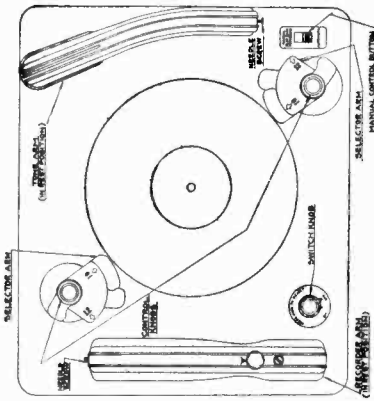
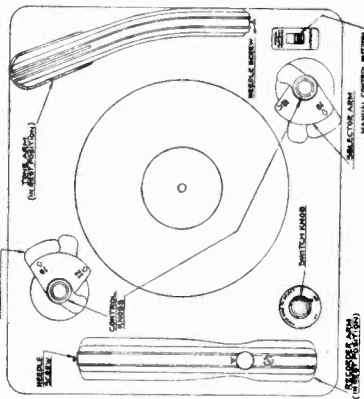

Fig. 2
Fig. 3
First switch off the motor. Grasp each post by its knob at the top and turn them out of the way. Return the tone arm to the rest position. Then lift the played records from the turntable. Return the posts to the proper playing position as indicated by the arrows on the selecting arms. (See Fig. 2 and 3). The Changer may then be loaded with a new stack of records according to the size shown on the selecting arms.
On each post there are selecting arms (See Fig. 2 and Fig. 3) and their position determines the setting for different size records. To set for 10 or 12 inch records, it is merely necessary to grasp the posts by the knobs at the top, lift, and turn until the 10" or 12" arrows are pointing toward the center of the turntable. When in either the 10" or 12" position, the posts will snap into place except when they are lifted by hand. Figure 2 shows the Record Changer with the selecting arms set for 10" records and ready to be loaded; the tone arm in the rest position. Figure 3 shows the setting for 12" records.
1. Move the manual control button (See Figure 2) to the "AUTOMATIC" position.